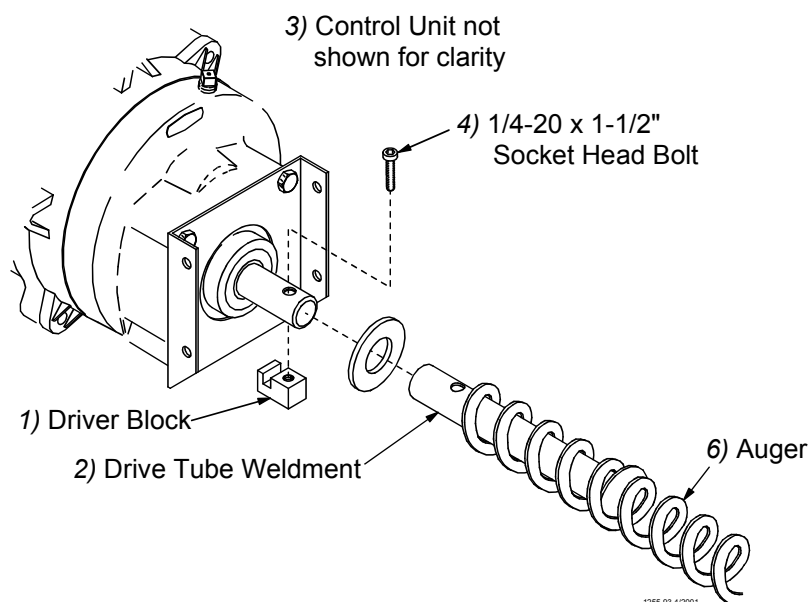

Figure 49. Auger Driver Components
4. Slide the Drive Tube and flat washer over the output shaft on the Power Unit, as shown in **Figure 49**.
6. Turn the Drive Tube Weldment into the auger, then attach to the output shaft of the Power Unit, as shown in **Figure 49**. Use the Driver Block to secure the auger to the Output Shaft.